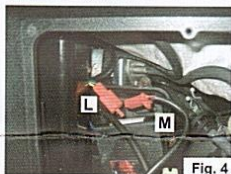
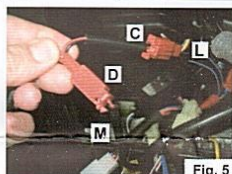

Fig. 4
Fig. 5
11. Disconnect the red power wire that feeds the e-choke (Fig. 4, L & M), and connect both of those connectors to the red jumper wire connectors from the cold start valve assembly (Fig. 5—C connects to L, and D connects to M).